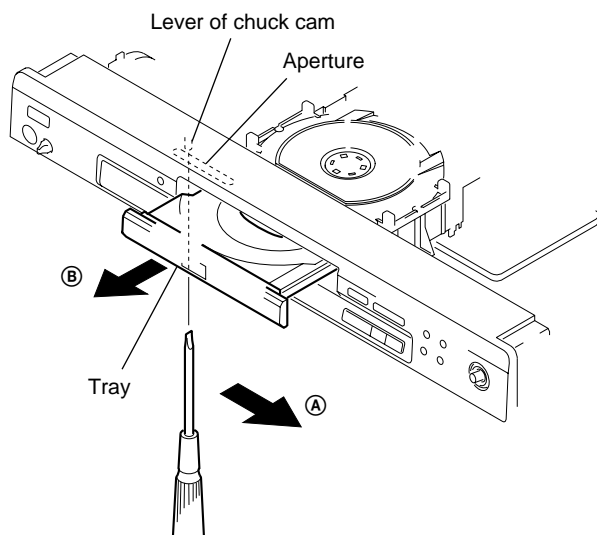

Fig. 1
- 1) Insert a tapering driver into the aperture of the unit bottom, and move the lever of chuck cam in the direction of the arrow ①. (See Fig. 1)
- 2) Draw out the tray in the direction of the arrow ②, and remove a disc. (See Fig. 1)